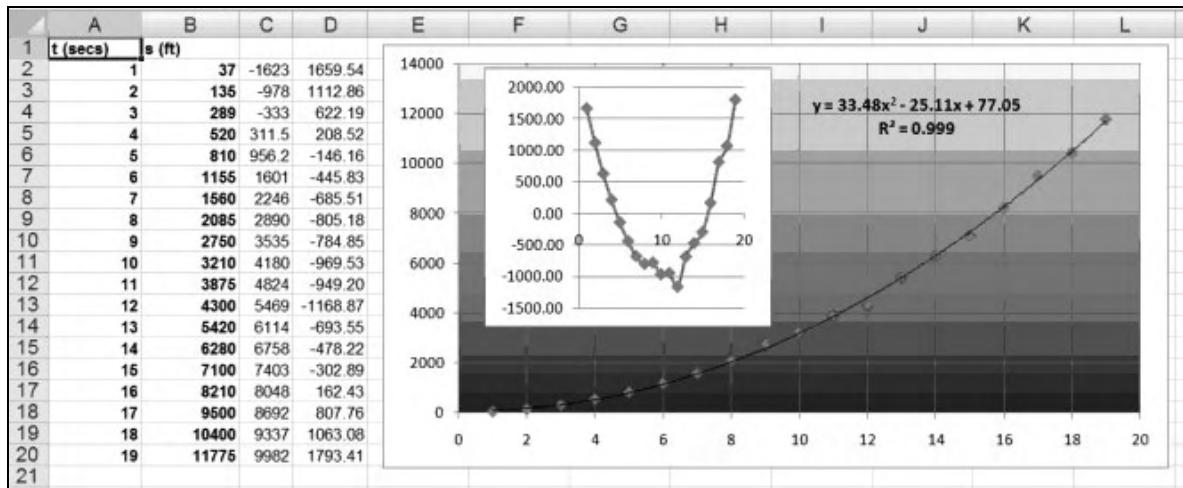

Figure: 4.19
Figure 4.19 shows a case in which you definitely should use the residuals method of curve fitting:
3. Plot the residuals against the y values (see the insert in Figure 4.19). The pattern of the residuals is far from randomly scattered. It looks more like a parabola.